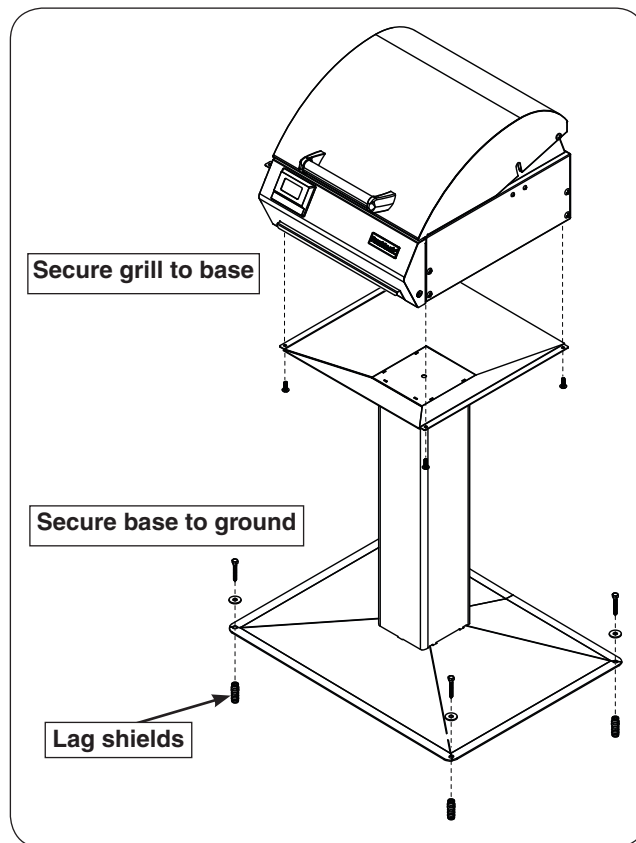

Fig. 10-3 Post model installation
3. Align the electric grill onto the top of the post assembly. Using the same four screws, fasten the electric grill to the post assembly. See Fig. 10-3.
1. Locate the patio mount base in the planned grill location and mark the 4 holes. Drill the marked holes to a 1/2" diameter x 1 1/2" depth. Insert the lag shields (see Fig. 10-3) into the holes, being sure that they are flush with the ground.
2. Align the holes on the patio mount base over the lag shields in the ground. Secure the base with the lag screws (see Fig. 10-3) using a 7/16" nut driver.